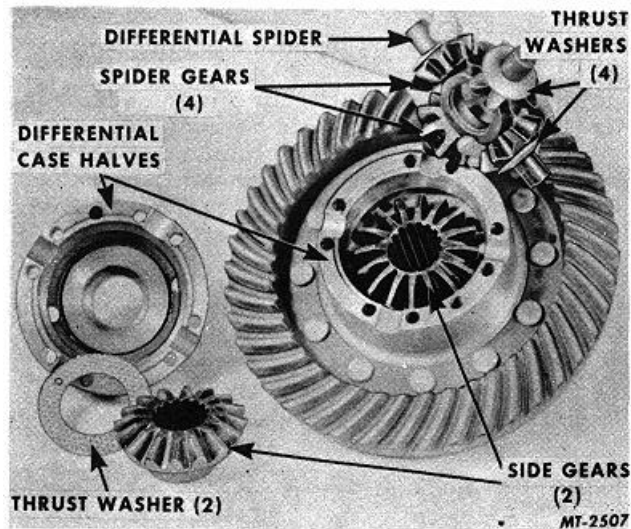

Fig. 14 Component Parts of Differential Case
3. Remove spider, pinions, side gears and thrust washers, Fig. 14.